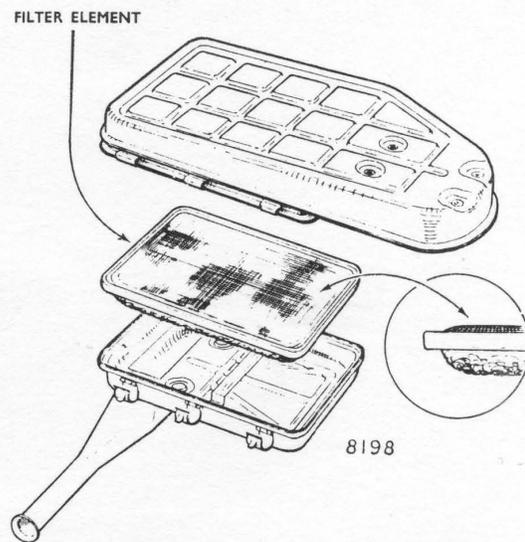

Fig. 2. Air cleaner—fibre pad type
**AIR CLEANER USED WITH SOLEX P.A.I.A.S. CARBURETTOR — See Fig. 2**